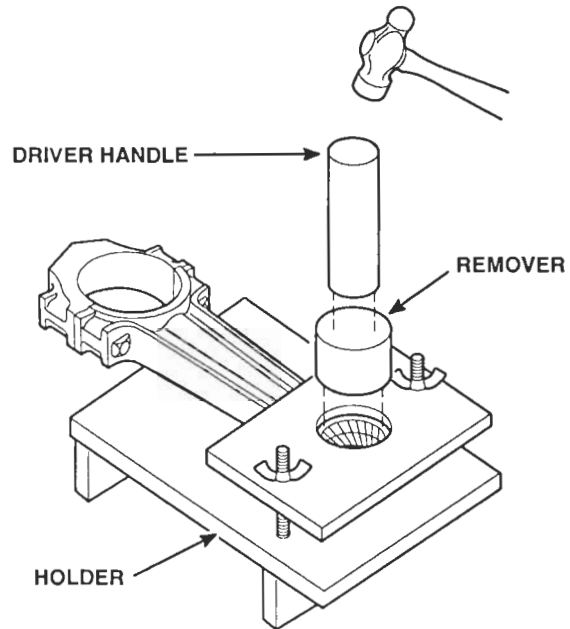

Figure 5. Removing or Installing Bushings with Holder
1. Clamp the upper end of the connecting rod in holder J 7632 (Figure 5.) so that the bore in the bushings is aligned with the hole in the base of the holder.